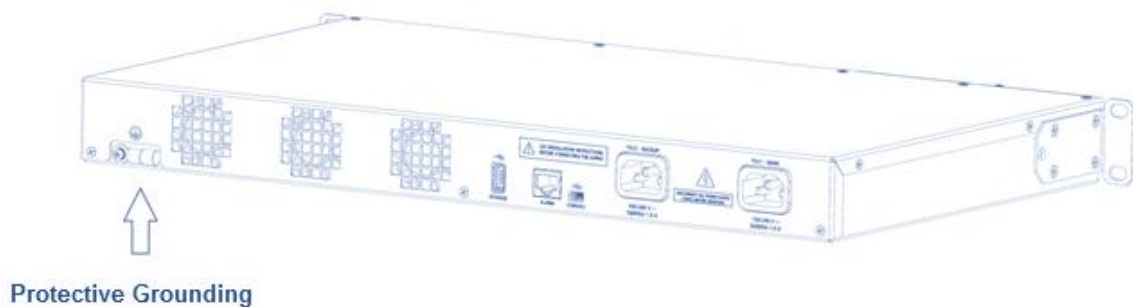

Figure 18 – Protective Grounding in DM4170
Step 1	Locate the grounding connector located on the back of the switch as shown in FIGURE 18 – PROTECTIVE GROUNDING IN DM4170 Protective Grounding; remove the connector with a Philips screwdriver.